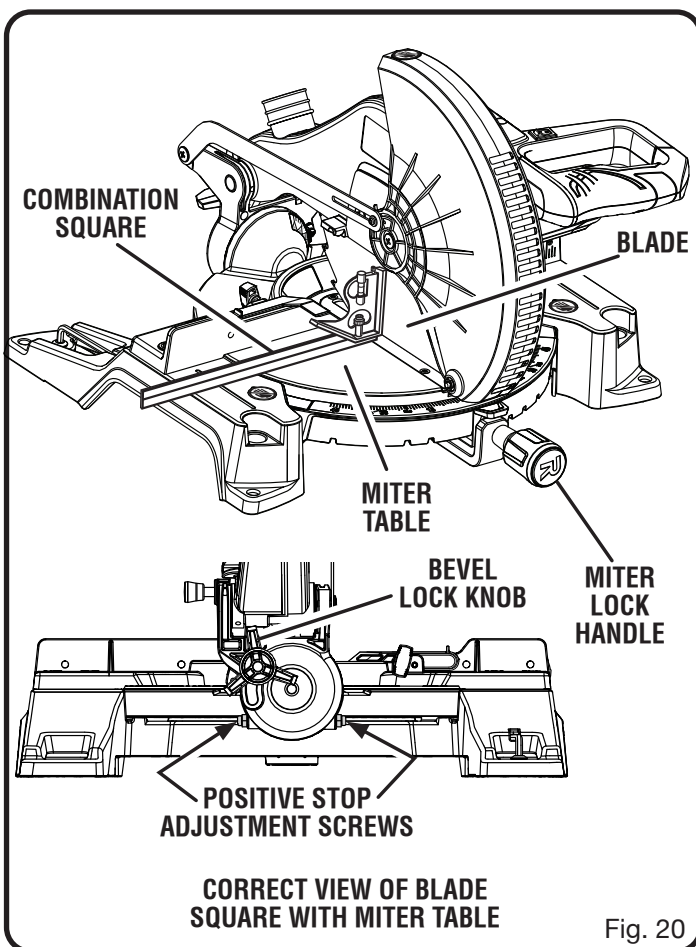

Fig. 20
See Figures 20 - 22.
- The edge of the square and the saw blade should be parallel as shown in figure 20.